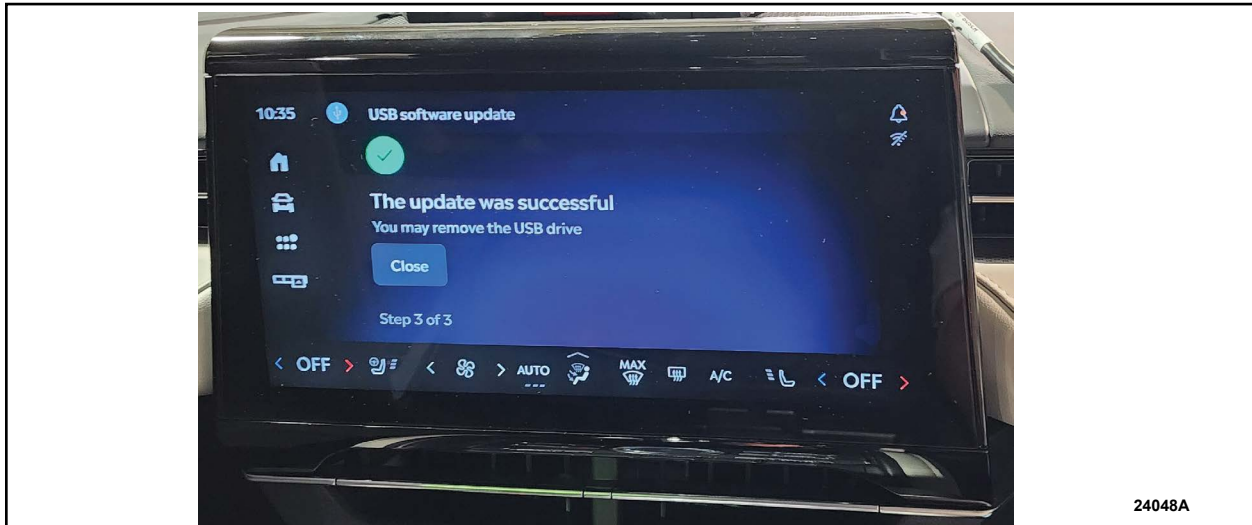

FIGURE 2
b. Wait ten (10) minutes.
19. Update will be confirmed on center screen. See Figure 2.